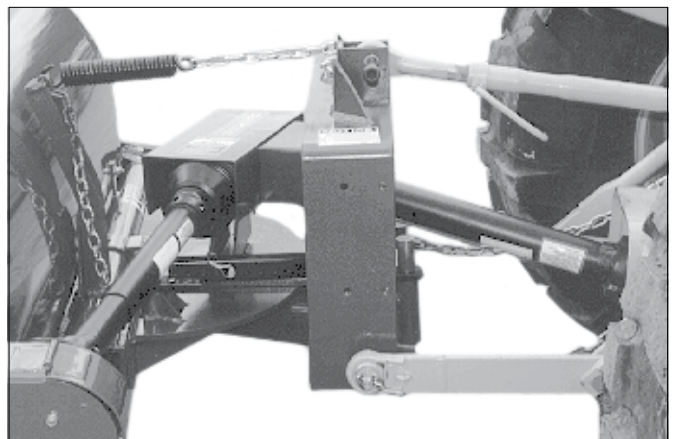

figure 3
14. Install the telescoping shaft. Figure 3 shows the shaft fully installed.